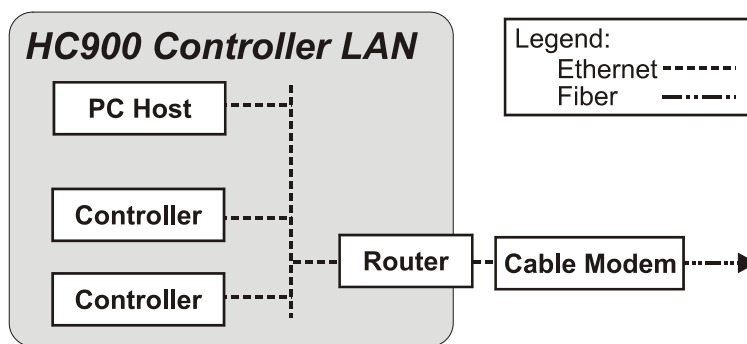

Figure 21 – Typical installation using a Cable Modem
- Install and configure a Router to provide isolation and security. (Figure 21) (This should be part of standard network installation.)